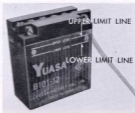

Fig. 26
2. The battery solution level should be above the lower line at all times. Add pure distilled water until the solution level is at the upper line. (Fig. 26)